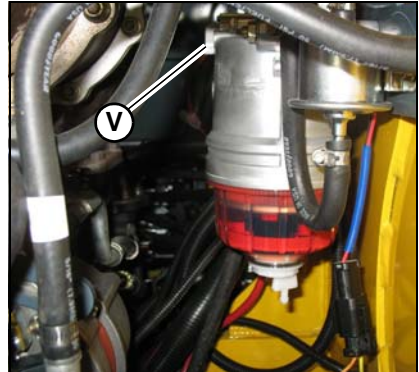

Figure 99 – Water Separator
3. Turn fuel valve lever (V, Figure 99) on the water separator to the OFF position.
6. Turn fuel valve (V, Figure 99) on the water separator to the ON position.